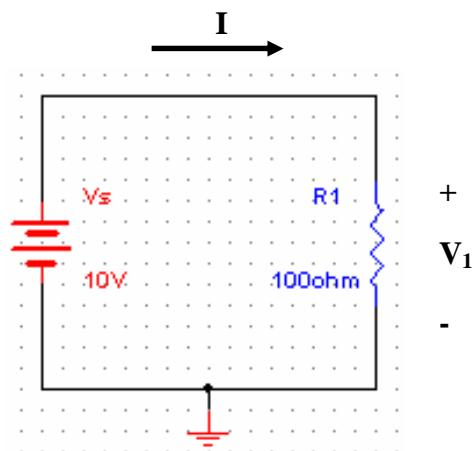

Figure 3: Verifying Ohm's Law
2. Build the circuit given in Figure 3. Set  $V_s = 10V$  and  $R_1=100\Omega$ . Click **Simulation Switch** to run analysis. Record voltage ‘ $V_1$ ’ across resistor  $R_1$  by connecting a multimeter in parallel to it. Record the value of current ‘ $I$ ’ flowing through  $R_1$  by connecting another multimeter in series to  $R_1$ . Note down the values in Table 3. From the voltage current readings verify Ohm’s law  $V_1=R_1 I$ . Considering multimeter reading as reference, calculate % error.